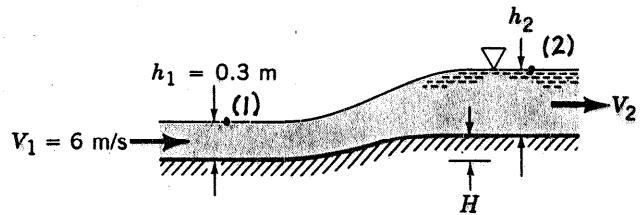

FIGURE P3.100
3.100* Water flows up the ramp shown in Fig. P3.100 with negligible viscous losses. The upstream depth and velocity are maintained at $h_1 = 0.3$ m and $V_1 = 6$ m/s. Plot a graph of the downstream depth, h_2 , as a function of the ramp height, H , for $0 \leq H \leq 2$ m. Note that for each value of H there are three solutions, not all of which are realistic.